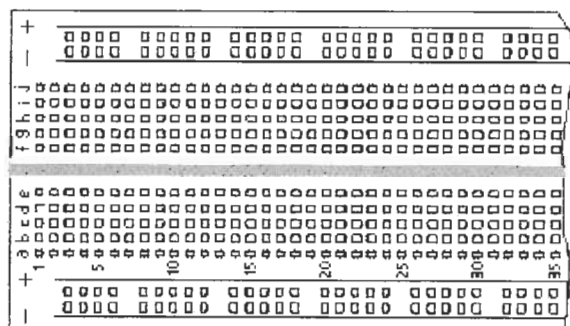

Figure L2-11
1. Set your digital multimeter to continuity. Now refer to Figure L2-11. Notice the letters across the top and the numbers down the side of the solderless breadboard.